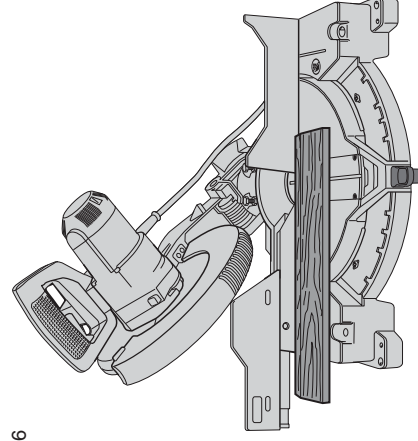

FIG. 26
- All cuts made with back of molding laying flat on the saw as shown in Figures 26.